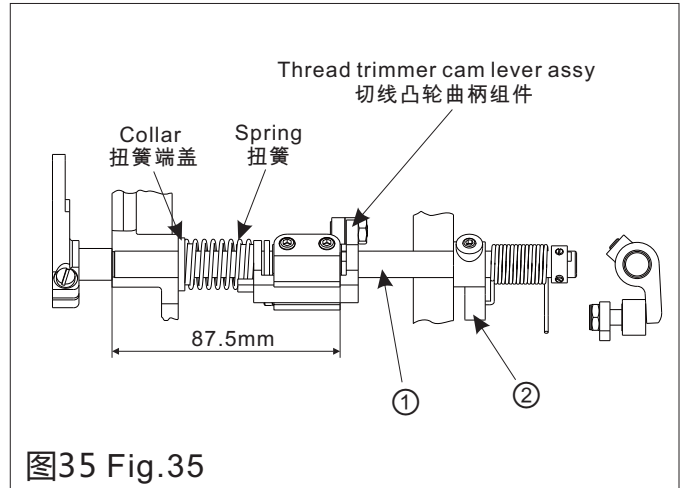

图35 Fig.35
3.凸轮曲柄轴 (图35)
3.Thread trimmer cam lever shaft(Fig.35)